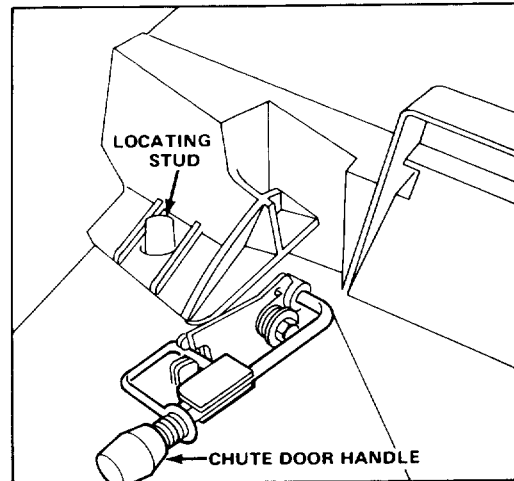

Figure 4
1. Assure chute door handle is fully forward and locked in place (Fig. 4).
2. Slide guide hole in bag door onto locking stud on mower housing (Fig. 4); then set rear of bag frame onto support rod.